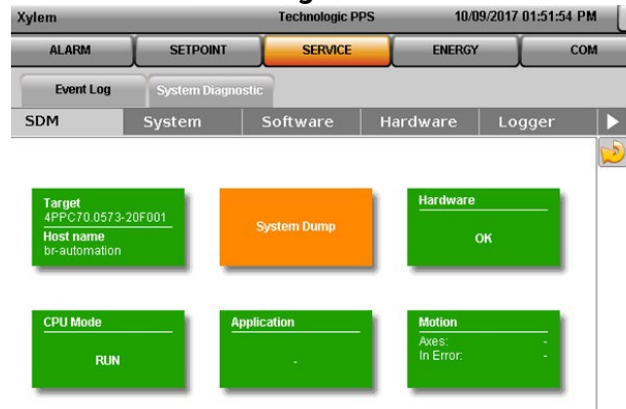

Figure 5.4.39-System Diagnostic
**[SDM]** System Diagnostic manager is used to diagnose system hardware and software data statistics as shown in **Figure 5.4.39**.